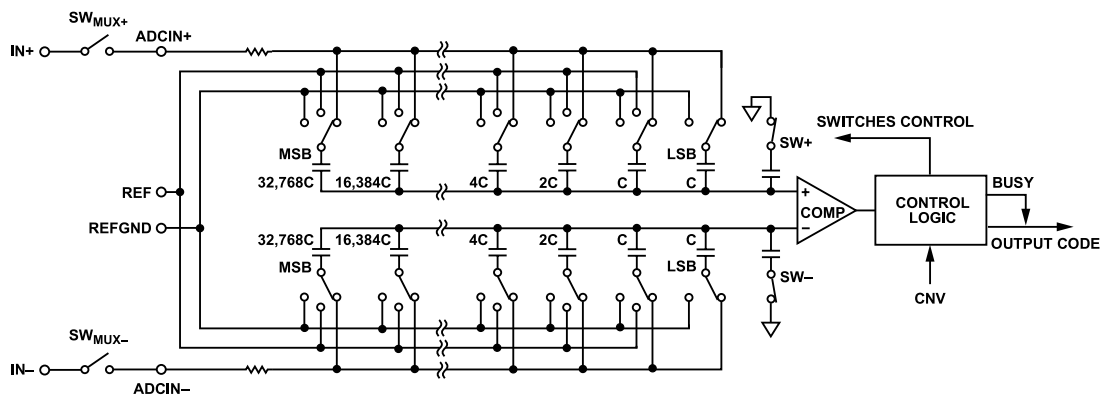
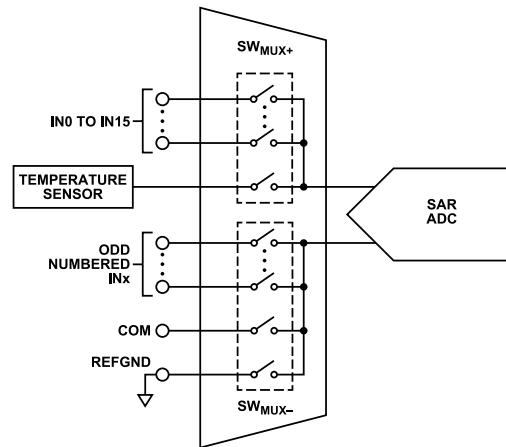
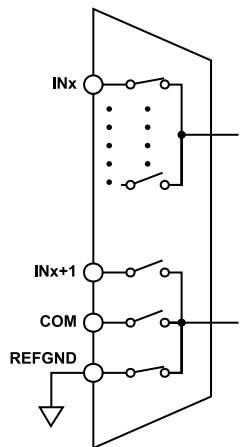

Figure 64. ADC Simplified Schematic
Figure 68. Multiplexer Simplified Schematic
Figure 69. INx Paired with REFGND
The AD4695/AD4696 contain an SAR-based ADC core that utilizes a charge redistribution digital-to-analog-converter (DAC) to quantize the applied input voltage to an output code. Figure 64 shows a simplified schematic of the AD4695/AD4696 SAR ADC core.
The analog inputs and the temperature sensor are connected to the capacitor array inputs (ADCIN+ and ADCIN-) via the internal low crosstalk multiplexer, represented by SWMUX+ and SWMUX- in Figure 64. The multiplexer switches are controlled by the internal channel sequencing logic and are updated once per conversion (see the Multiplexer section and the Channel Sequencing Modes section).
A low crosstalk analog multiplexer routes the signals from the analog input pins to the ADC core inputs. The impedance of the analog inputs is modeled as the parallel combination of the pin capacitance ( $C_{PIN}$ ) and the network formed by the series connection of  $R_{IN}$  and  $C_{DAC}$ .  $R_{IN}$  represents the ADC input series resistance and the multiplexer switch resistance and is typically 240  $\Omega$ .  $C_{DAC}$  represents the ADC sampling capacitive DAC shown in Figure 64, and is typically 60 pF.
The AD4695/AD4696 contain a flexible, low crosstalk analog multiplexer for selecting from the 16 analog inputs and internal temperature sensor and routing them to the inputs of the 16-bit, pseudo differential SAR ADC core. Figure 68 shows a simplified schematic of the internal multiplexer. The  $SW_{MUX+}$  and  $SW_{MUX-}$  switches shown in Figure 64 and Figure 68 represent the multiplexer switches that route the selected channel to the ADC inputs (labeled  $ADCIN+$  and  $ADCIN-$  in Figure 64).  $SW_{MUX+}$  and  $SW_{MUX-}$  are break-before-make and are controlled by the internal channel sequencing logic (see the Channel Sequencing Modes section).
The multiplexer allows flexible analog input channel configuration. The  $SW_{MUX-}$  position is user programmable, and can be assigned to any of the pins shown in Figure 68 (see the Channel Configuration Options section).
The channel configuration settings include pin pairing assignments and signal polarity modes. The pin pairing options assign the position of  $SW_{MUX-}$  for each position of  $SW_{MUX+}$  and determine which signal is routed to the negative side of the SAR ADC core ( $ADCIN-$  in Figure 64). The signal polarity modes configure the  $ADCIN-$  voltage range. Figure 69 shows the pin pairing and voltage ranges for the different channel configuration options.
- ▶ Figure 69, IN0 to IN15 paired with REFGND
When the temperature sensor is selected, the multiplexer  $\text{SW}_{\text{MUX}+}$  switch (see Figure 68) selects the temperature sensor output and its  $\text{SW}_{\text{MUX}-}$  switch selects REF\_GND, and the SAR ADC core samples  $V_{TEMP}$  to generate a corresponding output code. The analog-to-digital conversion of the temperature sensor output utilizes the same transfer function as an analog input configured in unipolar mode with  $\text{OSR} = 1$  (see the Transfer Function section).